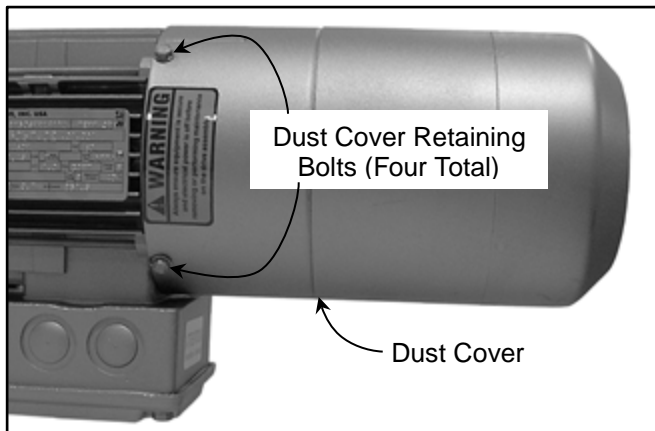

Figure 43
- Loosen the retaining bolts securing the brake dust cover to the motor assembly. Remove the cover. (See Figure 43)